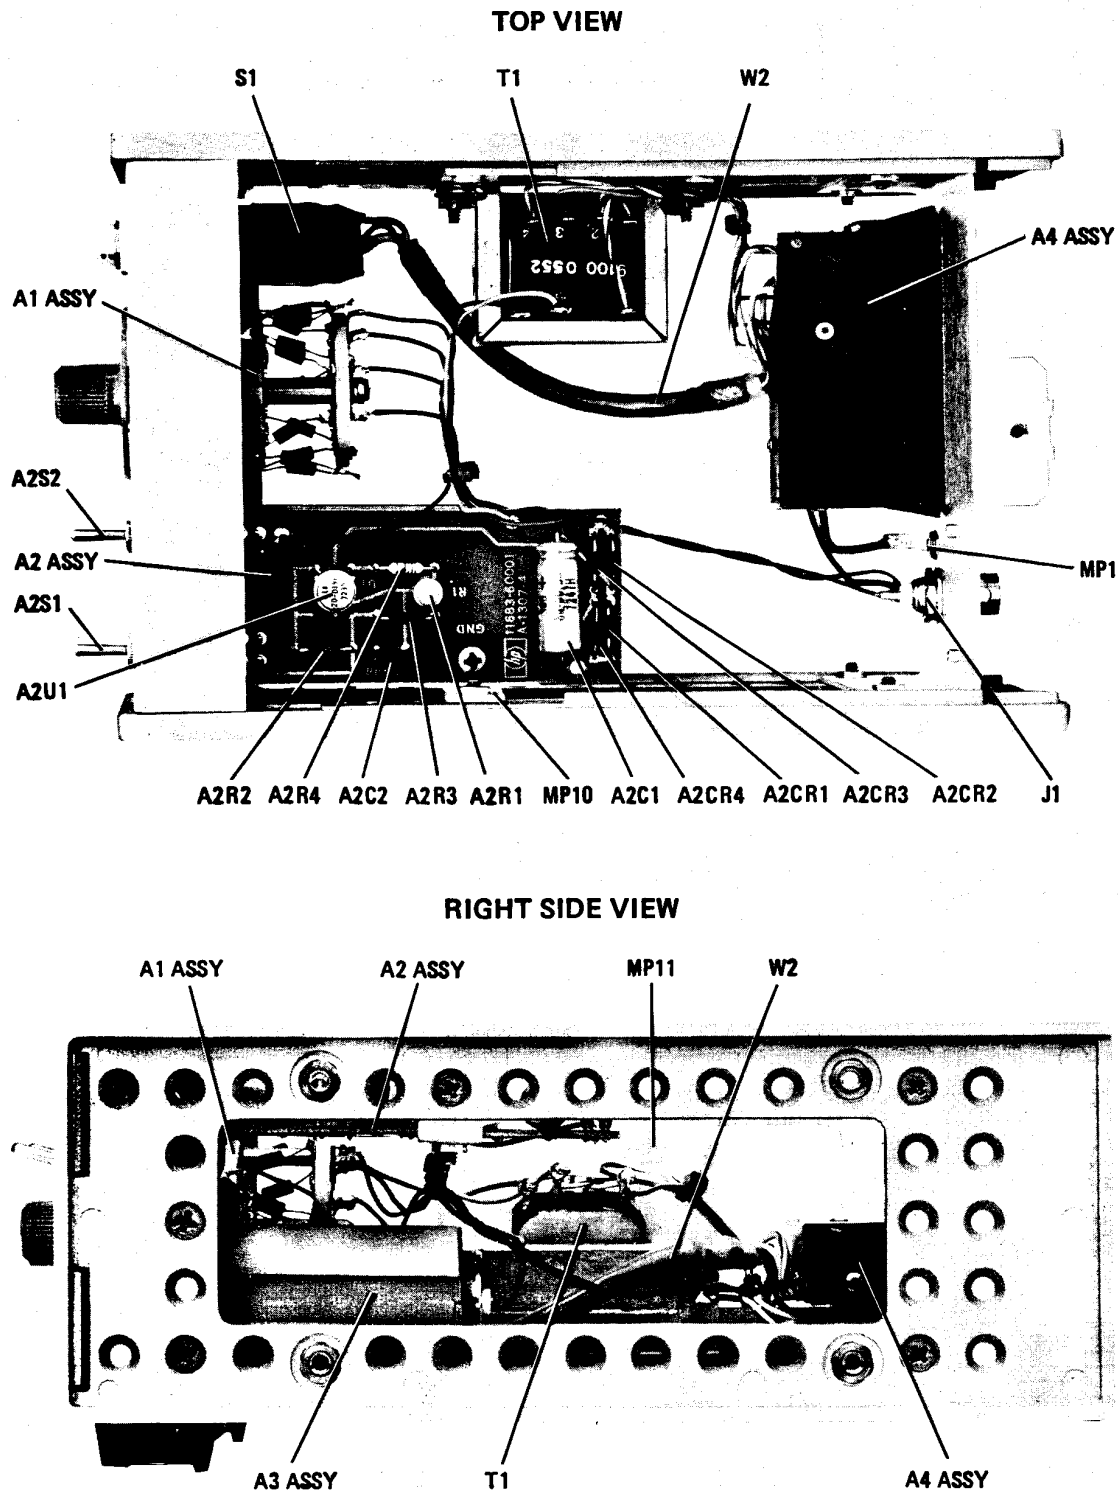

Figure 6-3 11683A assembly and component locations
- 4 Press the 435A ZERO Switch and check the spike amplitude on the oscilloscope display. Remove A2C2 and replace it, in the same location, with the next higher value capacitor. A2C2 may be located in one of the two positions or it may be omitted; see Figure 6-3.
Service Information is composed of repair, principles of operation, and troubleshooting, followed by the assembly and component locations diagrams (Figure 6-3 and Figure 6-4).